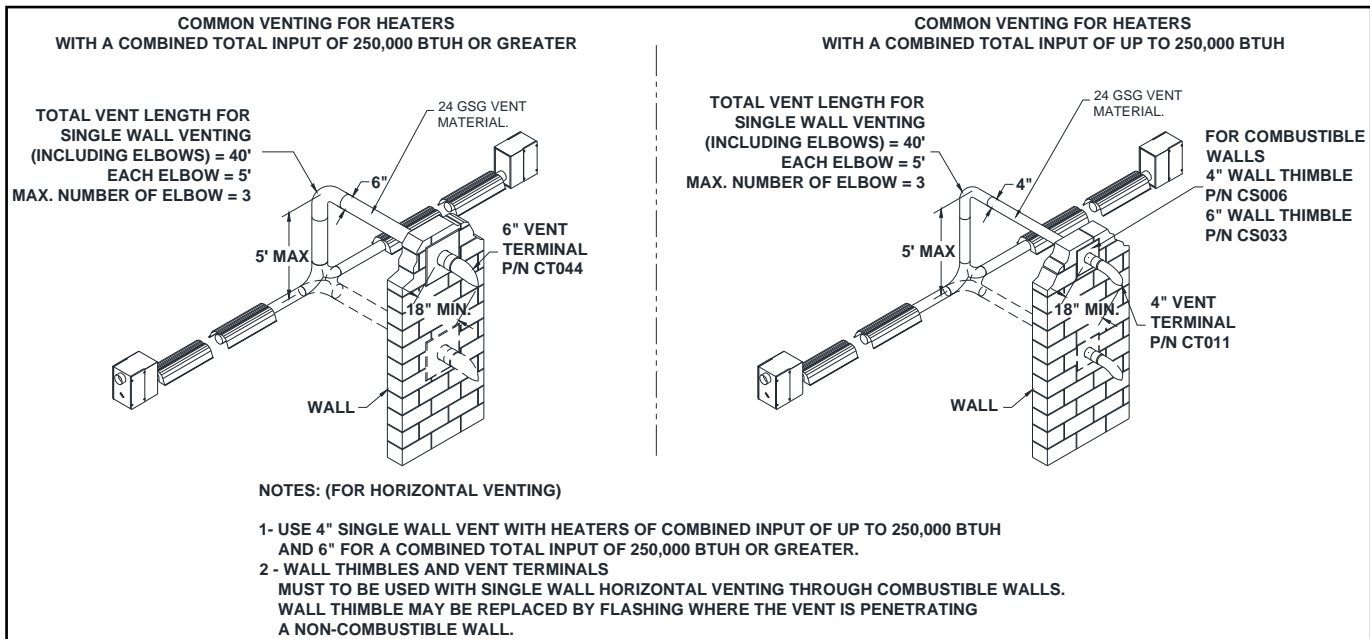

Figure 25: Common Horizontal Venting
- Refer to **Figure 25** for detailed Common Horizontal Venting guidelines.